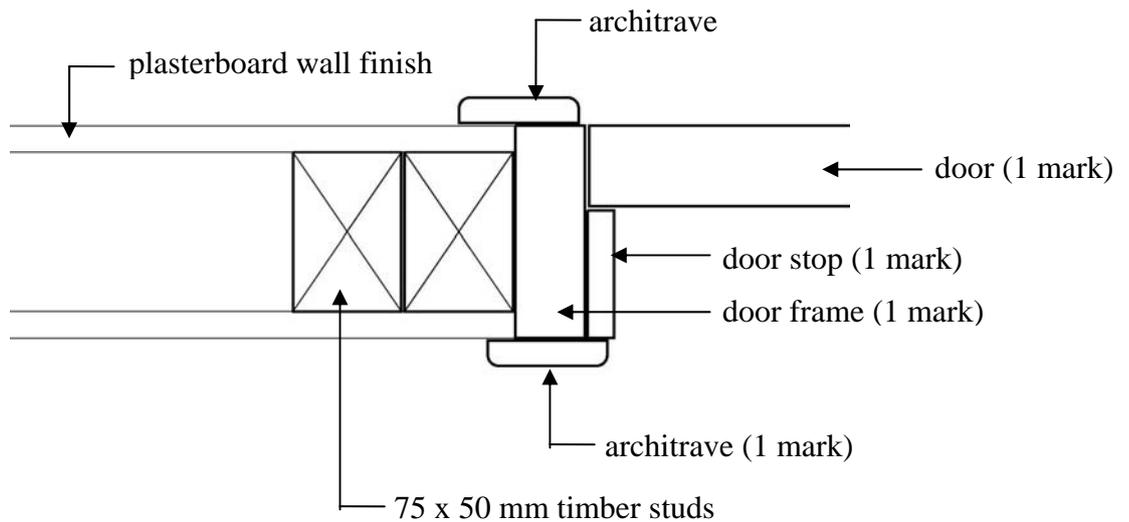

**Figure Q5**
5. (a) State the name given to the type of window shown in **Figure Q5** and name the parts of the window numbered 1 and 2.